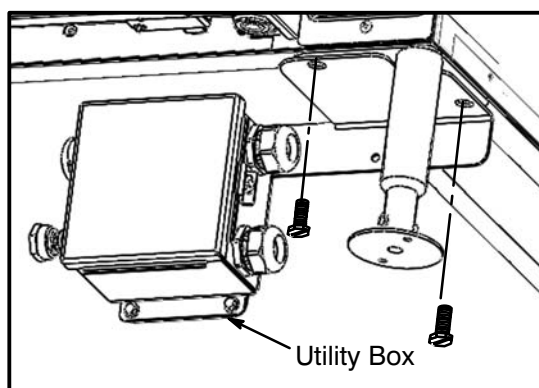

Figure 3
3. **Install the utility box before securing the right front leg.** Align the holes in the utility box bracket to the holes in the leg plate. See Figure 3.